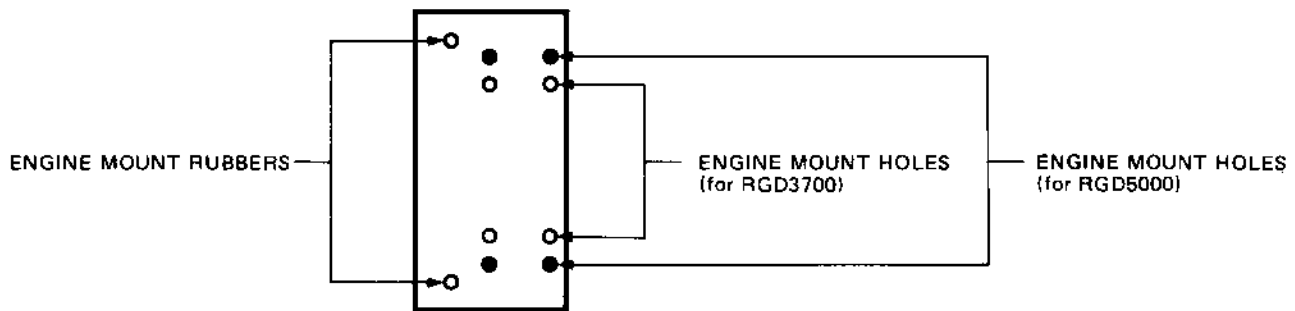

Fig. 10-37
- (2) Attach the engine base to the bottom of the engine. (See Fig. 10-37.)